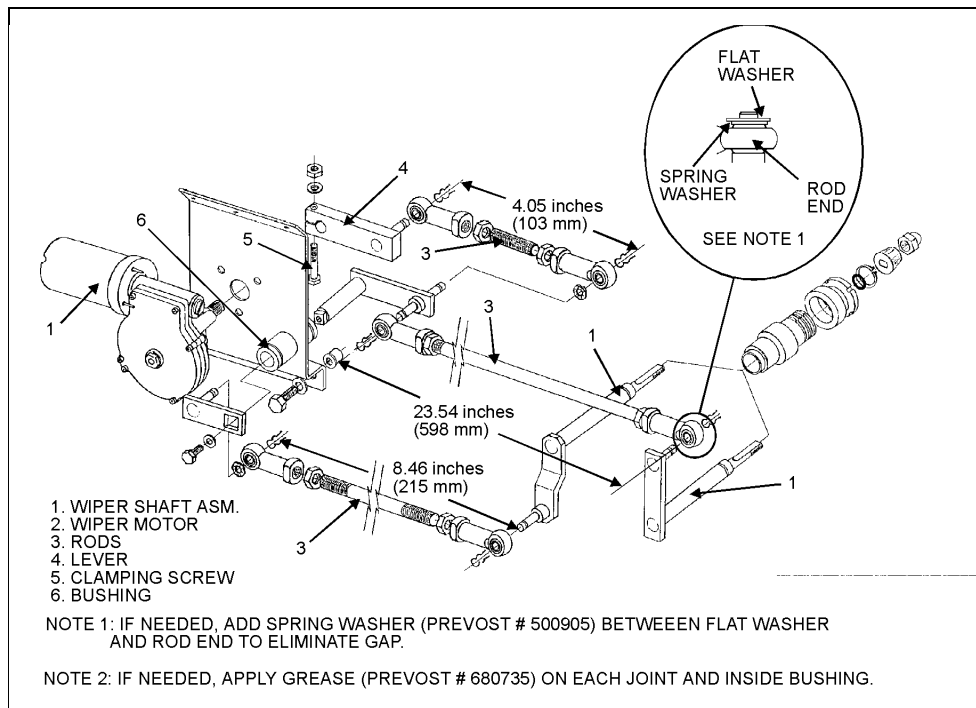

FIGURE 35: UPPER WINDSHIELD WIPER INSTALLATION
2. Adjust rods length (Fig. 35).
7. Loosen the bolt retaining the lever at the end of the motor driving shaft (Fig. 35).